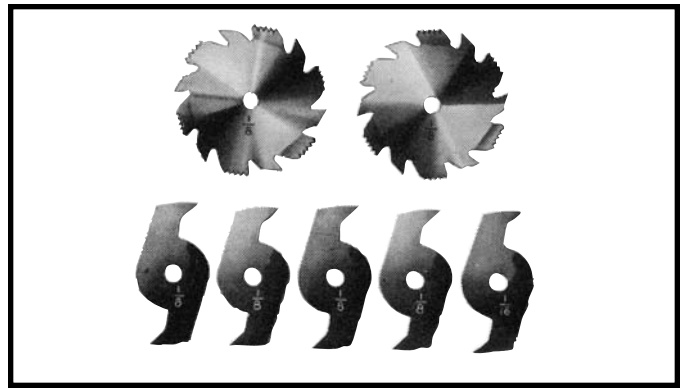
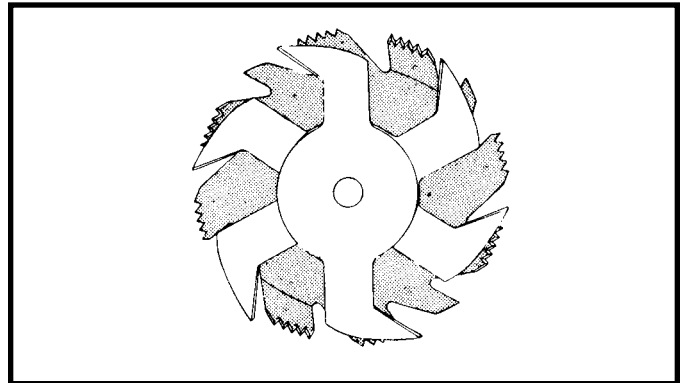
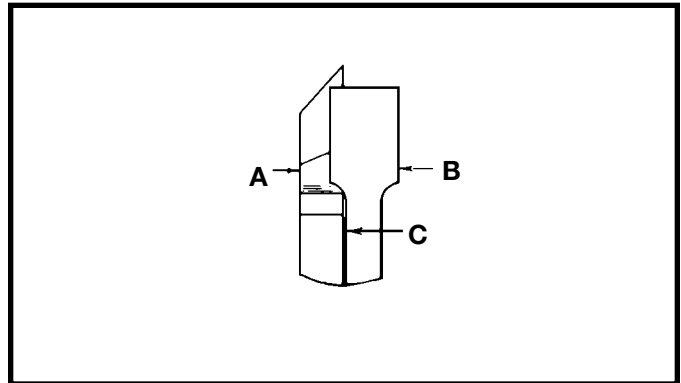

Fig. 69
Fig. 70
Fig. 71
Dadoing is cutting a rabbet or wide groove into the work. Most dado head sets are made up of two outside saws and four or five inside cutters, as shown in Fig. 69. Various combinations of saws and cutters are used to cut grooves from 1/8" to 13/16" for use in shelving, making joints, tenoning, grooving, etc. The cutters are heavily swaged and must be arranged so that this heavy portion falls in the gullets of the outside saws, as shown in Fig. 70. The saw and cutter overlap is shown in Fig. 71, (A) being the outside saw, (B) an inside cutter, and (C) a paper washer or washers which can be used to control the exact width of groove. A 1/4" groove is cut by using the two outside saws. The teeth of the saws should be positioned so that the raker on one saw is beside the cutting teeth on the other saw.